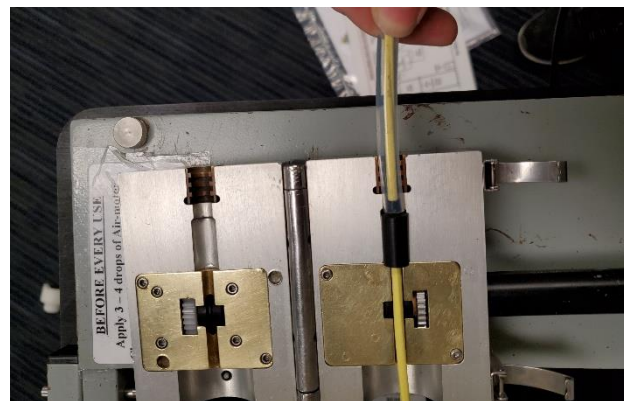

Figure 24
11.4 Carefully place Air Seal and 8mm Clear Tube into front of lower Blowing Head section. Install Air Seal with it's slit in a vertical plane (**slit up or slit down** direction). This technique helps reduce any potential air leakage from Blowing Head. **See Fig. 24 and 25.**
11.5 Push Air Seal and 8mm Clear Tube “forward” and away from lower Brass Plate. A “gap” of approximately 1/64” between the back of the Air Seal and the lower Brass Plate should be observed. Hold in place with 8mm Clear Tube. This technique helps prevent damaging / cutting back of Air Seal when top half of Blowing Head is closed. **See Fig. 24.**